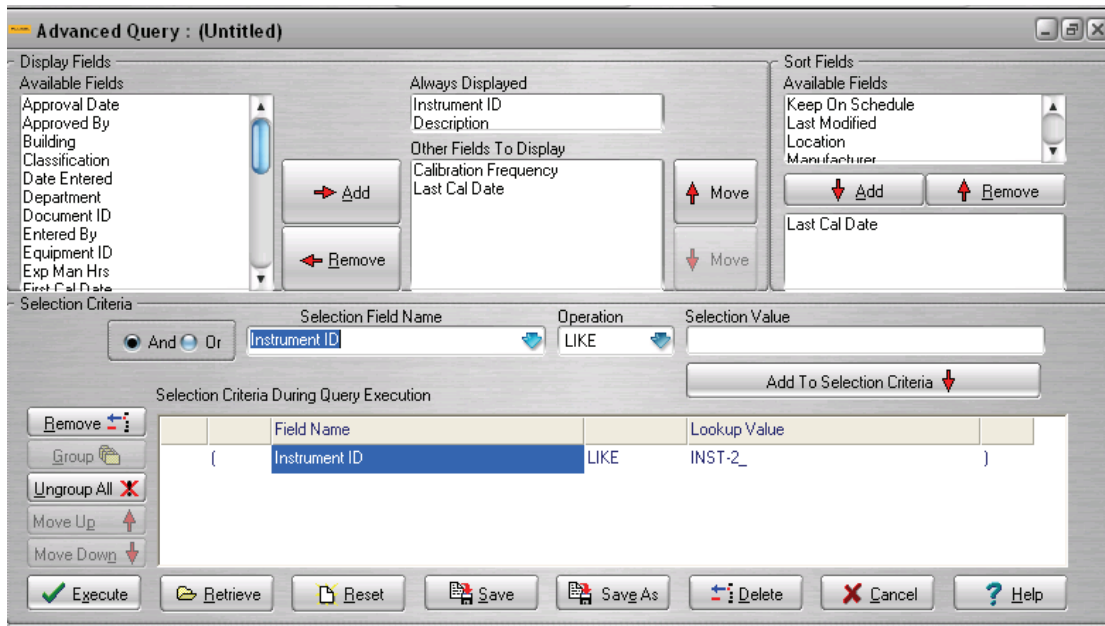

Figure 21.5
5. Finally, click the Add To Selection Criteria button to move it into the *Selection Criteria During Query Execution* box. Your screen will look like the one shown in Figure 21.5 below.